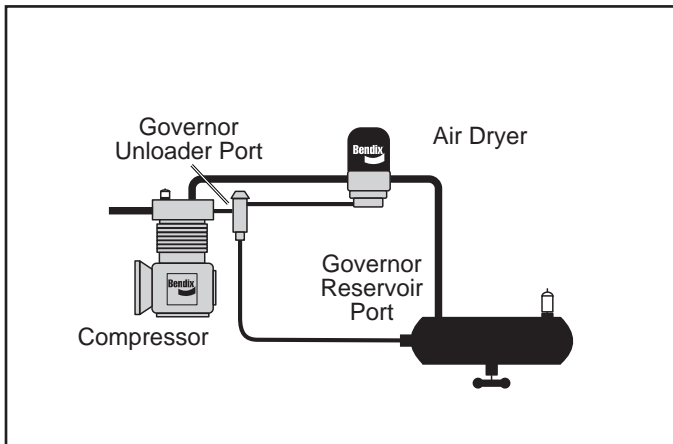

FIGURE 8 - COMPRESSOR CHARGING SYSTEM
The Bendix® BA-921® SMC compressors is only permitted to be naturally aspirated – use of engine turbocharger as an air source is not allowed. See Figure 8 for an example of a naturally aspirated air induction system.
2. Make certain the unloader system lines are connected as illustrated in Figure 8.